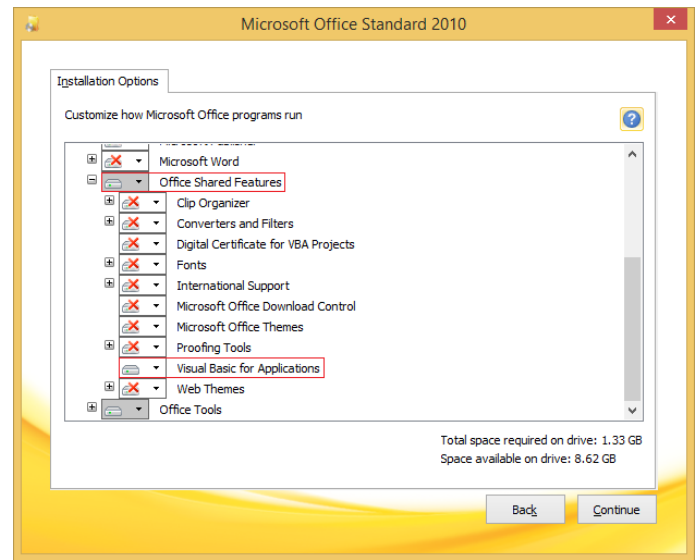

Figure 11: Excel VBA installation instructions in red.
- Visual Basic for applications (Office Shared Features) (See Figure 11)
Modify the Microsoft Office installation. See Figure 11 for an example.